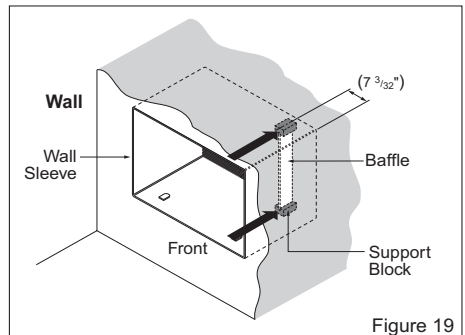

Figure 19
- 6 Remove the backing from the support blocks and attach them to the inside of the wall sleeve as shown in Figure 19. Slide the baffle in to slots of the support blocks.